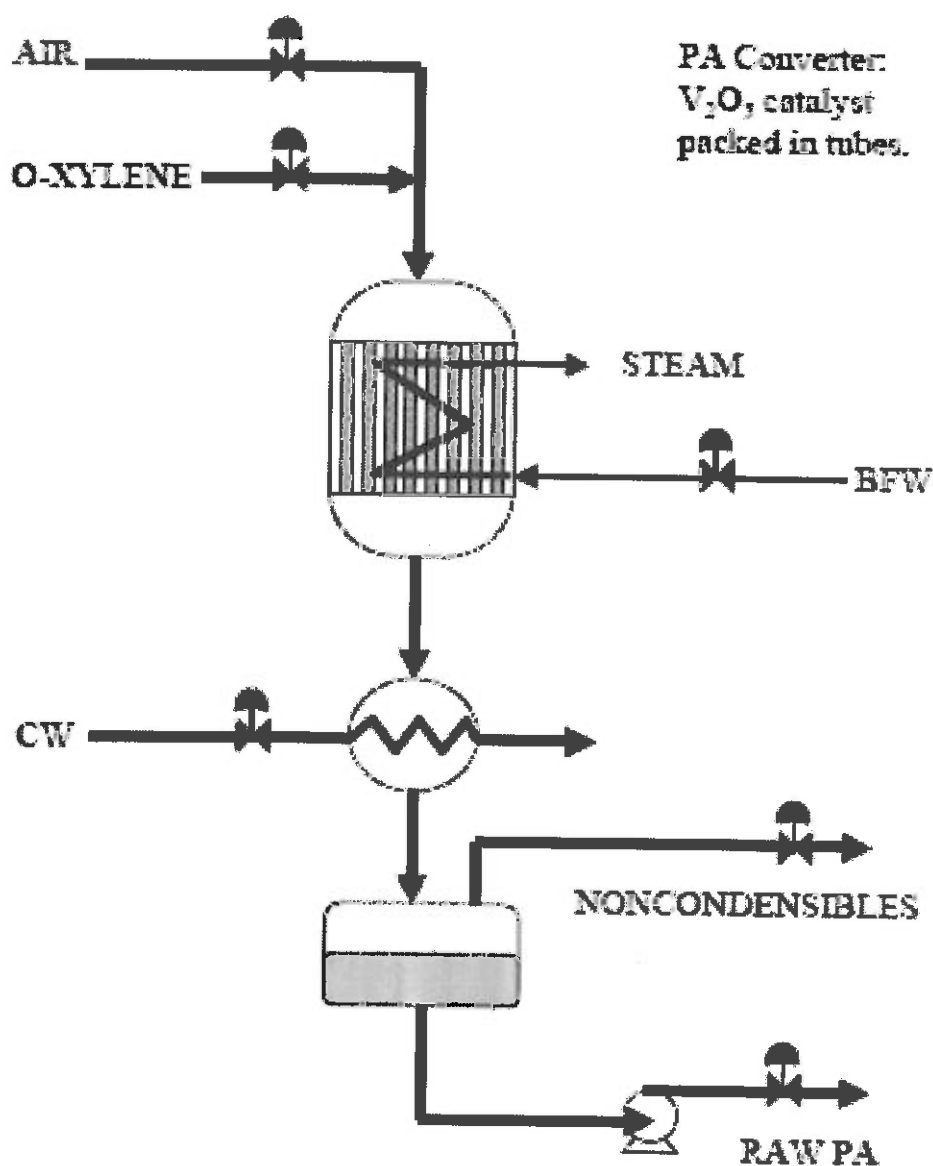

Figure 5. Phthalic anhydride (PA) converter
The phthalic anhydride (PA) converter shown in Figure 5 on the attached sheet has V_2O_5 catalyst packed in tubes, with the tubes surrounded by a heat transfer salt (HTS) solution. The HTS is in turn cooled by generating steam in boiler coils passing through the shell-side of the converter. The PA in the stream leaving the reactor is condensed and pumped away, whilst the remaining non-condensables proceed to a catalytic combustor. Show the following controls on the accompanying diagram:
- (a) O-xylene is on flow control (1)
- (b) Air flow rate is ratioed to the o-xylene flow rate. (2)
- (c) BFW valve is used to control the maximum of three temperatures measured in the catalytic tubes. (2)
- (d) Condenser temperature control is cascaded to a flow rate controller on the CW. (2)
- (e) Reaction pressure is controlled using the non-condensables valve. (1)
- (f) Accumulator level is controlled using the Raw PA valve (1)
- (g) A maximum temperature is allowed exit the reactor – if this is exceeded, the o-xylene valve is pinched shut (2)
- (h) A maximum level is allowed in the accumulator – if this is exceeded, the CW is pinched shut. (2)